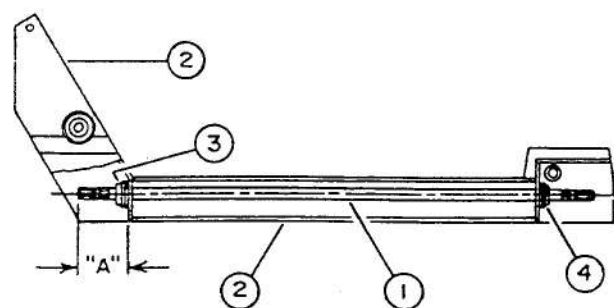

FIGURE 15
- a) Install 1" X 42 3/8" shaft (fig.15, item 1) in subframe (fig.15, item 2) using two 1" bearings, four flangettes and four 5/16" X 3/4" carriage bolts, lockwashers and nuts. Install one bearing and locking collar (fig.15, item 3) on front side of front cross plate and other bearing and locking collar on rear side of rear cross plate (fig.15, item 4). If using two lower rear holes in male hitch, leave 3 3/4" of shaft extending beyond front cross plate (fig. 15, distance "A"). If using upper holes, adjust shaft leaving 2 3/4" extending (fig. 15, distance "A"). Lock shaft in place by turning eccentric collar (fig.15, item 3) in the direction of shaft rotation and tighten set screws.